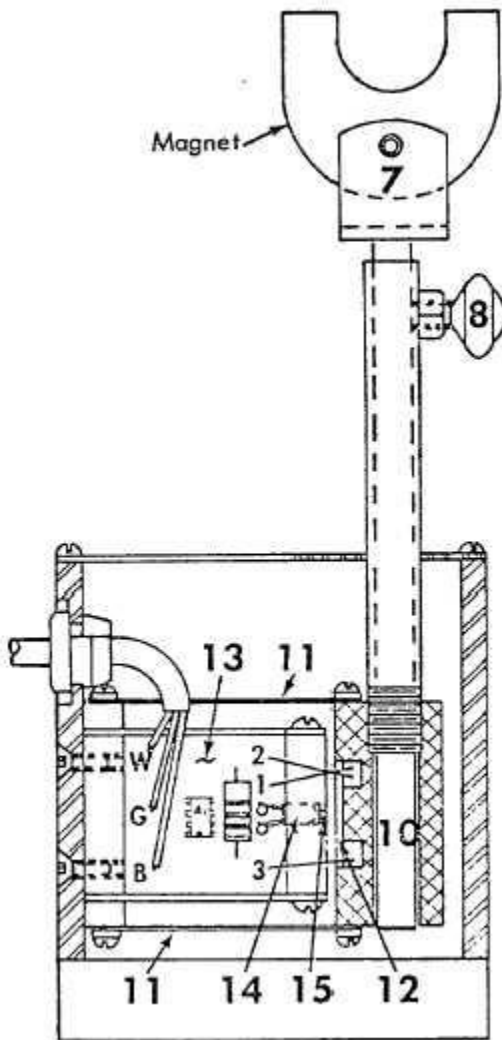

Figure 4. Item 6, Vibration Pickup Ass'y
A wheel out of balance will impart vertical vibrations to the magnet-rod assembly (7) on the vibration pick-up. The vibrations are transferred to the movable block-potentiometer assembly (10) suspended by two leaf springs (11) shown in figure 4. The light sensor potentiometer (12) is epoxied into a vertical slot of the block and has three flexible leads connected to the pc board (13). When the block vibrates up and down, light from a light emitting diode (14), transmitted through a slit (15), strikes different vertical positions of the light sensor pot. This action causes the output voltage of the light sensor to vary in a regular cyclic manner. The output voltage is generally sinusoidal, and is proportional to the amount of unbalance producing the vibration. The generated sinusoidal voltage is coupled to a buffer amplifier (reference A1 on schematic), and is located on pc board (13) in the vibration pick-up assembly. The output of A1 is connected to its inverting input to provide negative feedback. The output is also coupled by wire 15 to meter amplifier A2 via an ac coupling network, C1 and R2. The meter amplifier modifies the input signal so as to adequately drive amplifier A3 and the meter through full wave rectifier DB1. Offset null pot R3 provides zero-balance adjustment of the output. Connected to the inverting input of A2 and the bridge is the meter sensitivity switch and three resistors R4, R5 and R6 for selecting amplifier gain.
4. Place vibration sensor on level surface, under lower control member. Loosen locking thumb screw and position magnet in firm contact with the lower control member. Magnet should be as close to the wheel being balanced as possible. Securely lock the thumb screw on the pickup. See figure 4.